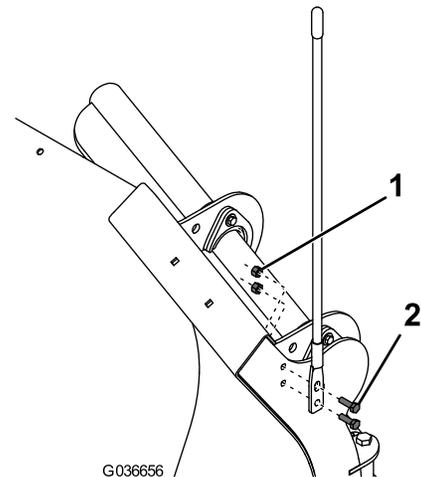

Figure 13
1. Attach the blade guides to the plow wings using 4 bolts (5/16 inch) and 4 self-locking nuts (Figure 13).